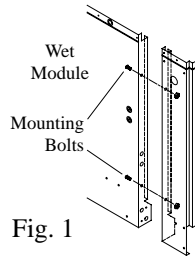

Fig. 1
**NOTE:** For ease of installation you can separate the wet module from the blower module by removing the 4 bolts from the wet module side (Fig. 1). Remember to unplug the pump and drain pump before separating the modules.